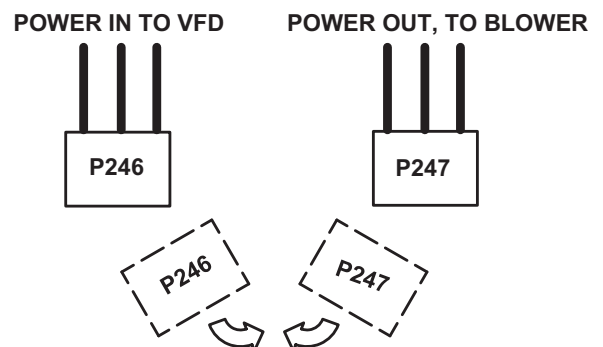

FIGURE 40
- 4 - Connect P246 to P247. See FIGURE 40.